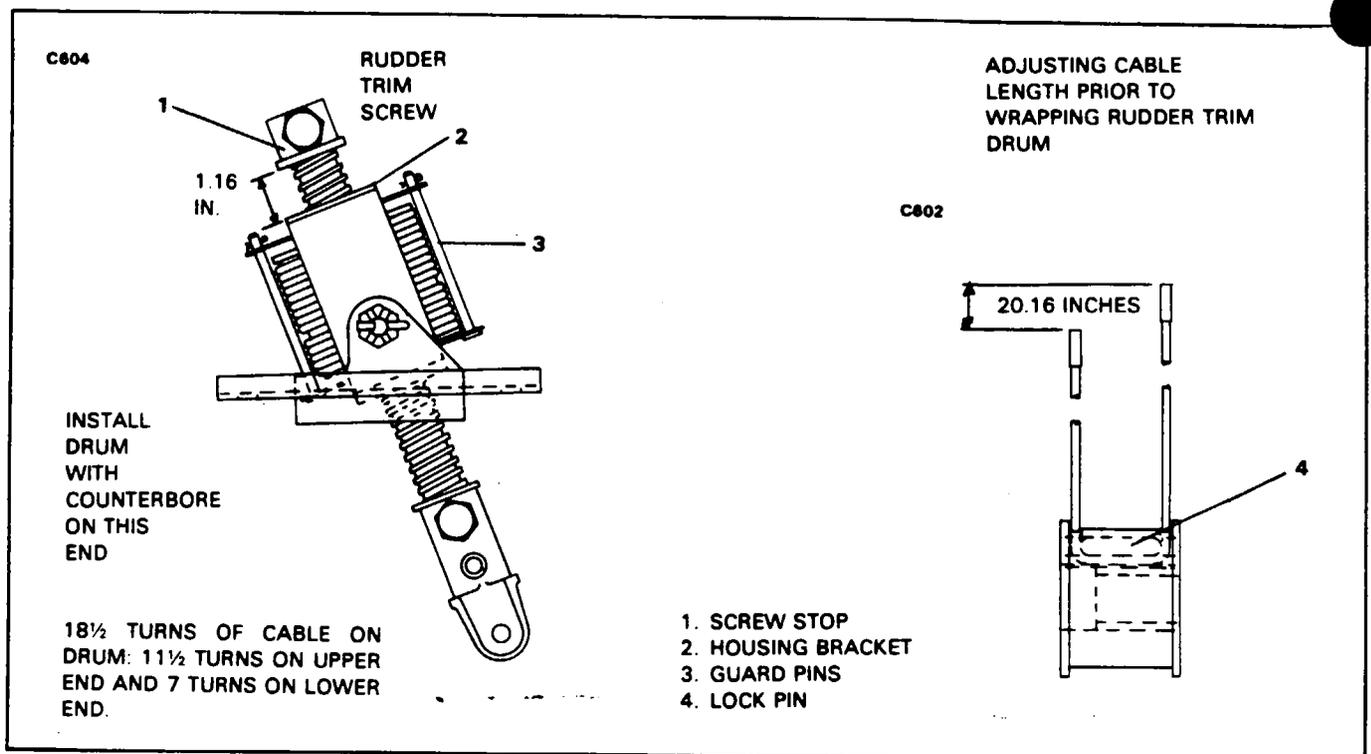

Figure 27-17b. Wrapping Rudder Trim Drum
**WRAPPING RUDDER TRIM DRUM.** (Refer to Figure 27-17b.)
- A. Insert the cable to the slot in the trim drum. There should be a 20.16 inch difference in the length of the unwrapped cable as it comes out of the trim drum. The shorter end of the cable should be that end which comes out of the lower end of the drum (the counterbored end). Refer to Figure 27-17b.)
8. Insert the drum in the housing bracket, position the drum and route the cables from the assembly as shown in Figure 27-17b.